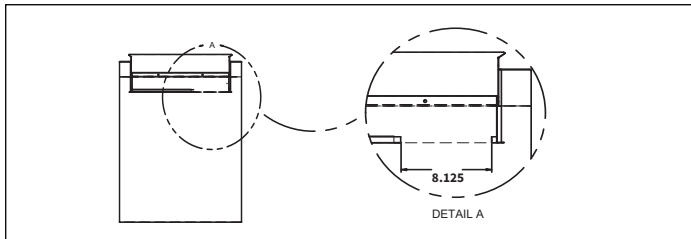

Figure 1
- Make a second cut 8 1/8" from the right corner. The gasket should peel away from the plenum leaving a clean mounting surface (See Figure 1).